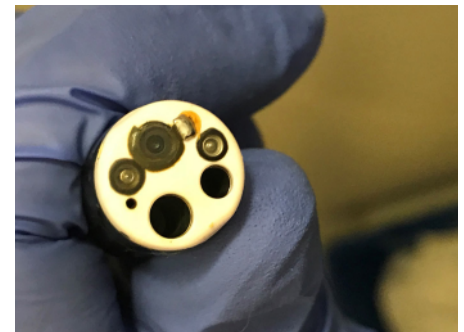

Figure 3: Damaged distal end cap
- Chips or cracks in the distal end cap. (See **Figure 3**)